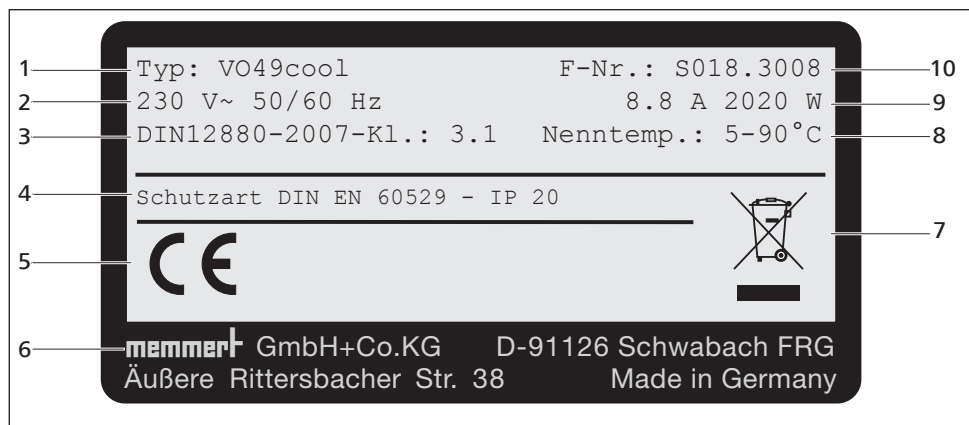

Fig. 9 Nameplate (example)
The 8-pin switching output on the rear right post (Fig. 9) is used to control the vacuum pump of the optional pump module (PM) through the vacuum oven (VOcool). The switching output is backwards-compatible with the 3-pole contact of older pump modules. For this purpose, plug the 3-pole cable into the 8-pole contact.